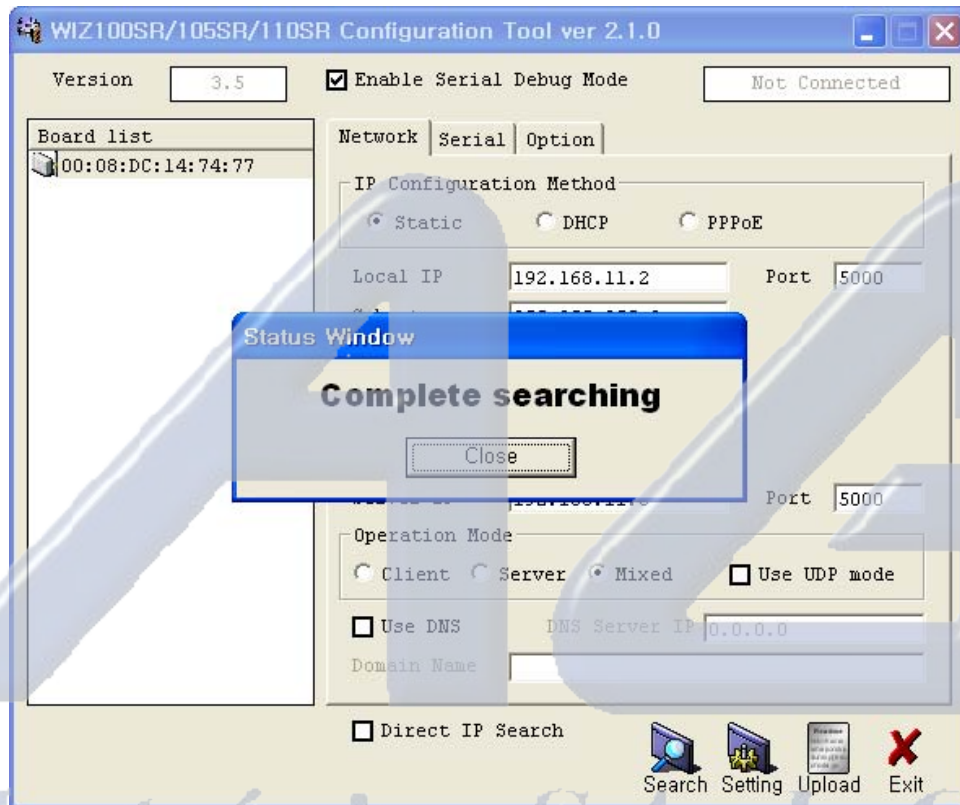

Figure 10. Board Search Window
3. As shown in Figure 10, select Option tab and check 'Enable' combo box of "Password" menu.
④Serial Configuration:
- ① Select a module shown in "Board list", and click "Upload" button.
- 👉 Before uploading through Ethernet, you should set the network information of WIZ105SR first by Configuration Tool program as shown above Fig 10. By using Ping test, you can check if network is correctly configured.
- ② When the window as shown below Figure is displayed, select file for upload and click "Open" button.